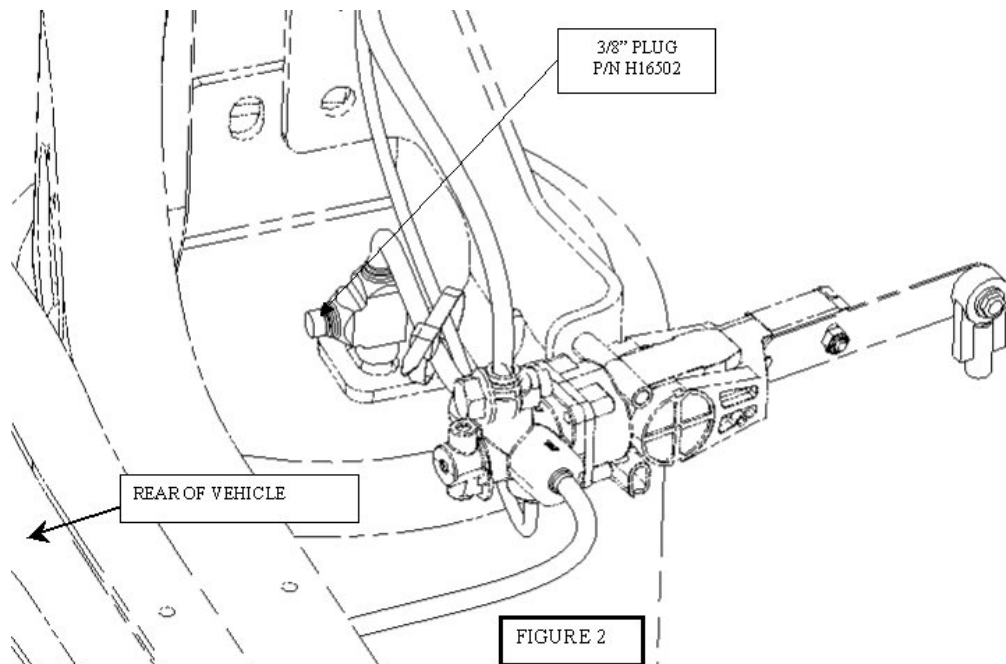

FIGURE 2
- (1) At left rear bag, air supply tee (see Figure 2), remove tube 1 that goes back to the elbow on top of the chassis mounted solenoid valve; plug the open tee fitting using H16502 Tube Plug.